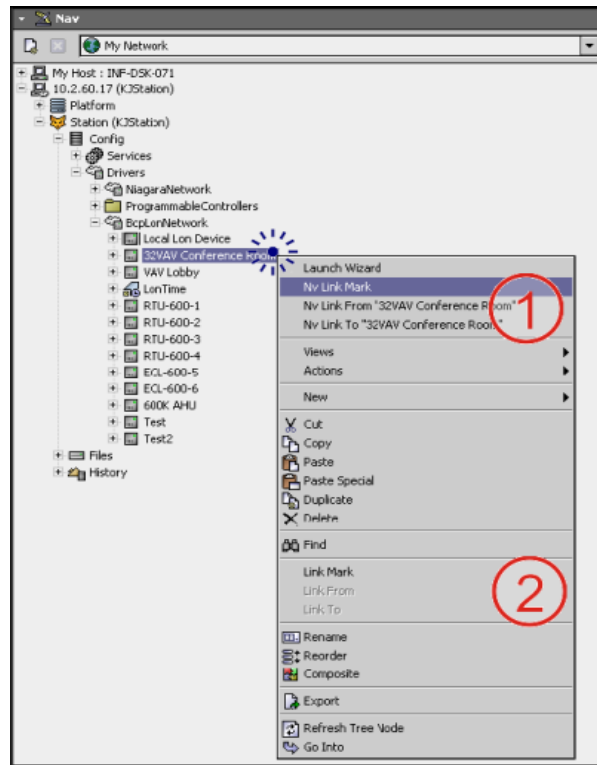

Figure 62: The Two Incompatible Link Methods
- The Bcp Nv Link Mark actions that are used according to the following procedure (Area 1 in Figure 62).
- The standard Niagara^{AX} Link Mark actions that are described in Niagara^{AX}'s documentation (Area 2 in Figure 62).